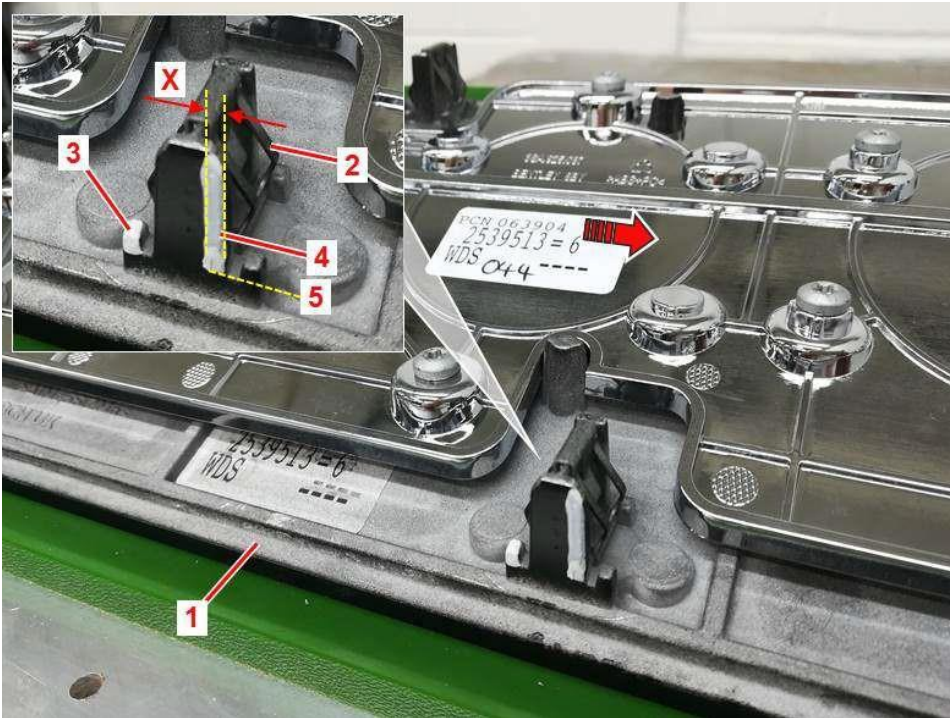

Figure 3
Place the veneer face fascia panel (1) face down on a soft, clean and protective work surface and mark accordingly the direction in which the panel needs to move (arrow). See Figure 3.
Remove the spring retaining clip (2) from the lowermost locator pin. If the fascia panel requires moving by 0.5mm then remove the same amount of material (X) from the appropriate side of the lower centre locator pin (4) as shown on the aluminium substrate casting. In addition, file the trailing RPS point (3) flat, level with the recess. See Figure 3.